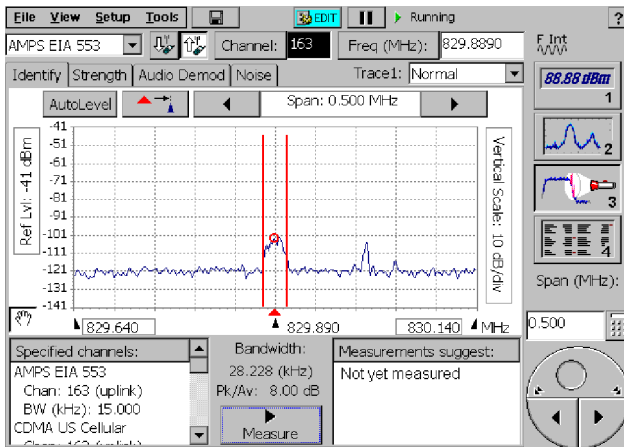

Figure 3-20: A trace spectrum in the Interference window
2. Select the Interference display (). See Figure 3-20.
3. Look at the **Assignments for this Freq.** readout at the lower left of the display. See Figure 3-20.